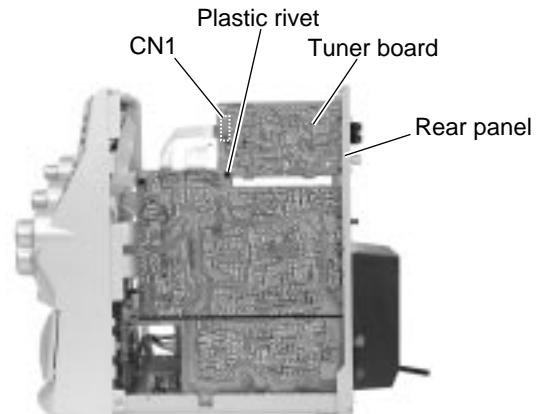

Fig.11
■Removing the tuner board (See Fig.11 and 12)